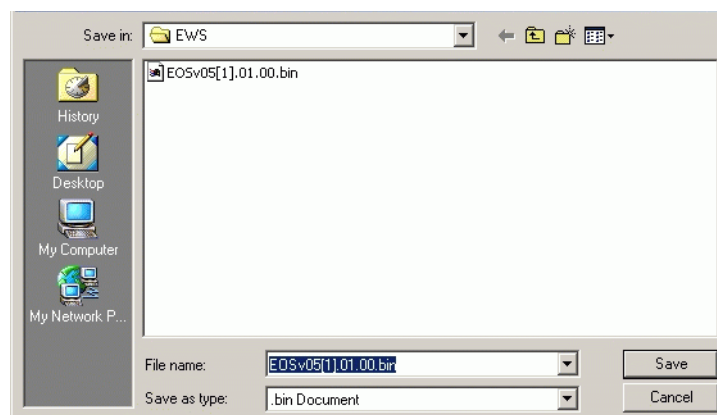

Figure 4-39 Save As Dialog Box
9. Select the *Save this file to disk* radio button and click *OK*. The *Save As* dialog box appears (Figure 4-39).